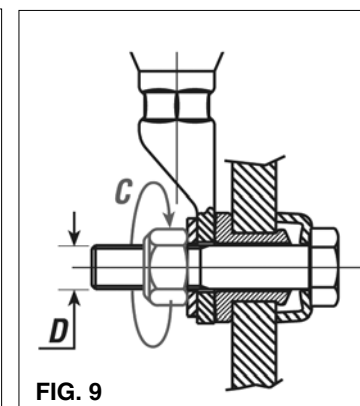

FIG. 9
3.3) Fit the flat washer and the self-locking nut. (Fig. 9)